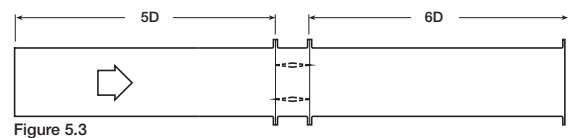
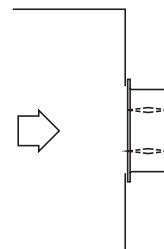

Figure 5.3
Figure 5.5
Figure 5.3: A fully ducted damper. This configuration has the lowest pressure drop of the three test configurations because entrance and exit losses are minimized by straight duct runs upstream and downstream of the damper.
Figure 5.5: A plenum mounted damper. This configuration has the highest pressure drop because of extremely high entrance and exit losses due to the sudden change of area in the system.
- Ducted Inlet – Ducted Outlet (AMCA 500-D, Figure 5.3)
- Plenum (AMCA 500-D, Figure 5.5)
The inset shows typical performance characteristics for these various mounting configurations. Note that applications with long runs of duct before and after the damper (Figure 5.3) have significantly less damper pressure loss than plenum mount (Figure 5.5) applications. For this reason, it is important to verify that damper performance data being used when designing an air distribution system is licensed by AMCA and certified by the manufacturer for the mounting configuration that most closely matches the job site situation.